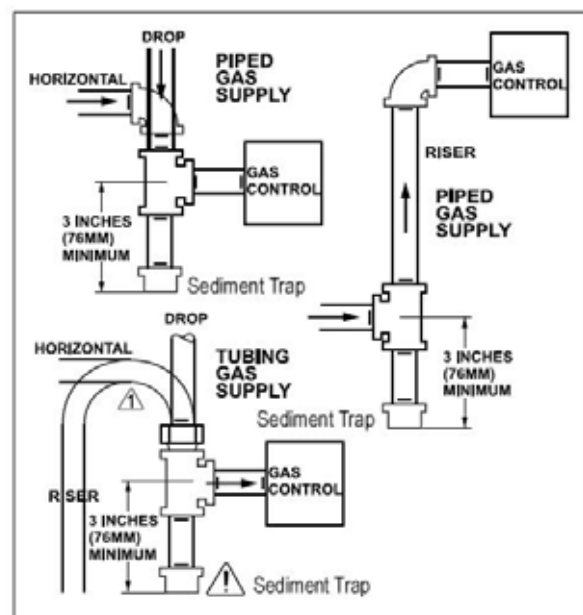

Figure 2: Sediment Trap (where required)
3. Install a sediment trap (where required) in the supply line to the gas valve (see figure 2).